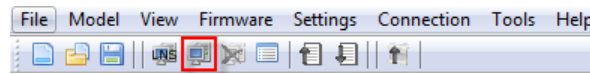

Figure 29: LINX Configurator software, Connect to device
1. Select the IP connection method by clicking on the **Connect to device** button in the tool bar as shown in Figure 29.